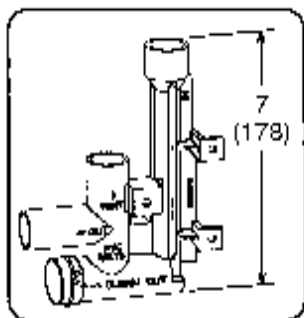

Figure 48
3. Install the cap over the clean out opening at the base of the trap. Secure with clamp. See Figure 48.
4. Install drain trap using appropriate PVC fittings, glue all joints. Glue the provided drain trap as shown in Figure 48. Route the condensate line to an open drain. *Condensate line must maintain a 1/4" downward slope from the furnace to the drain.*